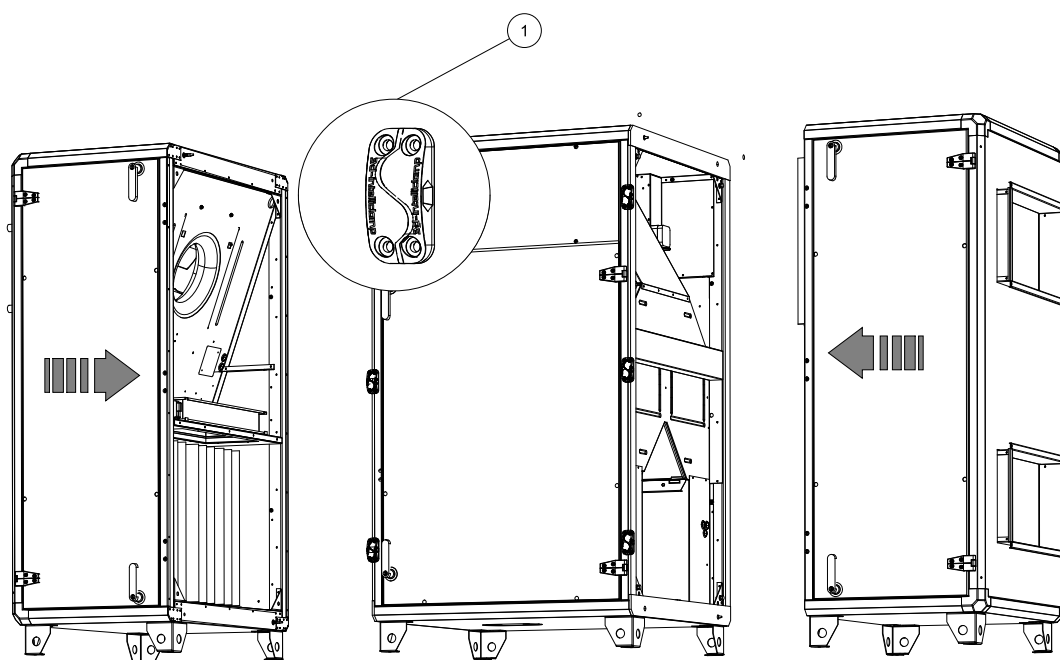

Fig. 4
For size SC06-SC11 the units are delivered in parts on the pallet. For mounting procedure see figure 4. Attach the fast couplings to the electric wires. Connect the tubes for the pressure guard filter. Push the units together and fasten the assembly fitting (pos. 1) with a hex key. Make sure that there is enough space behind the unit to tighten the bolts.